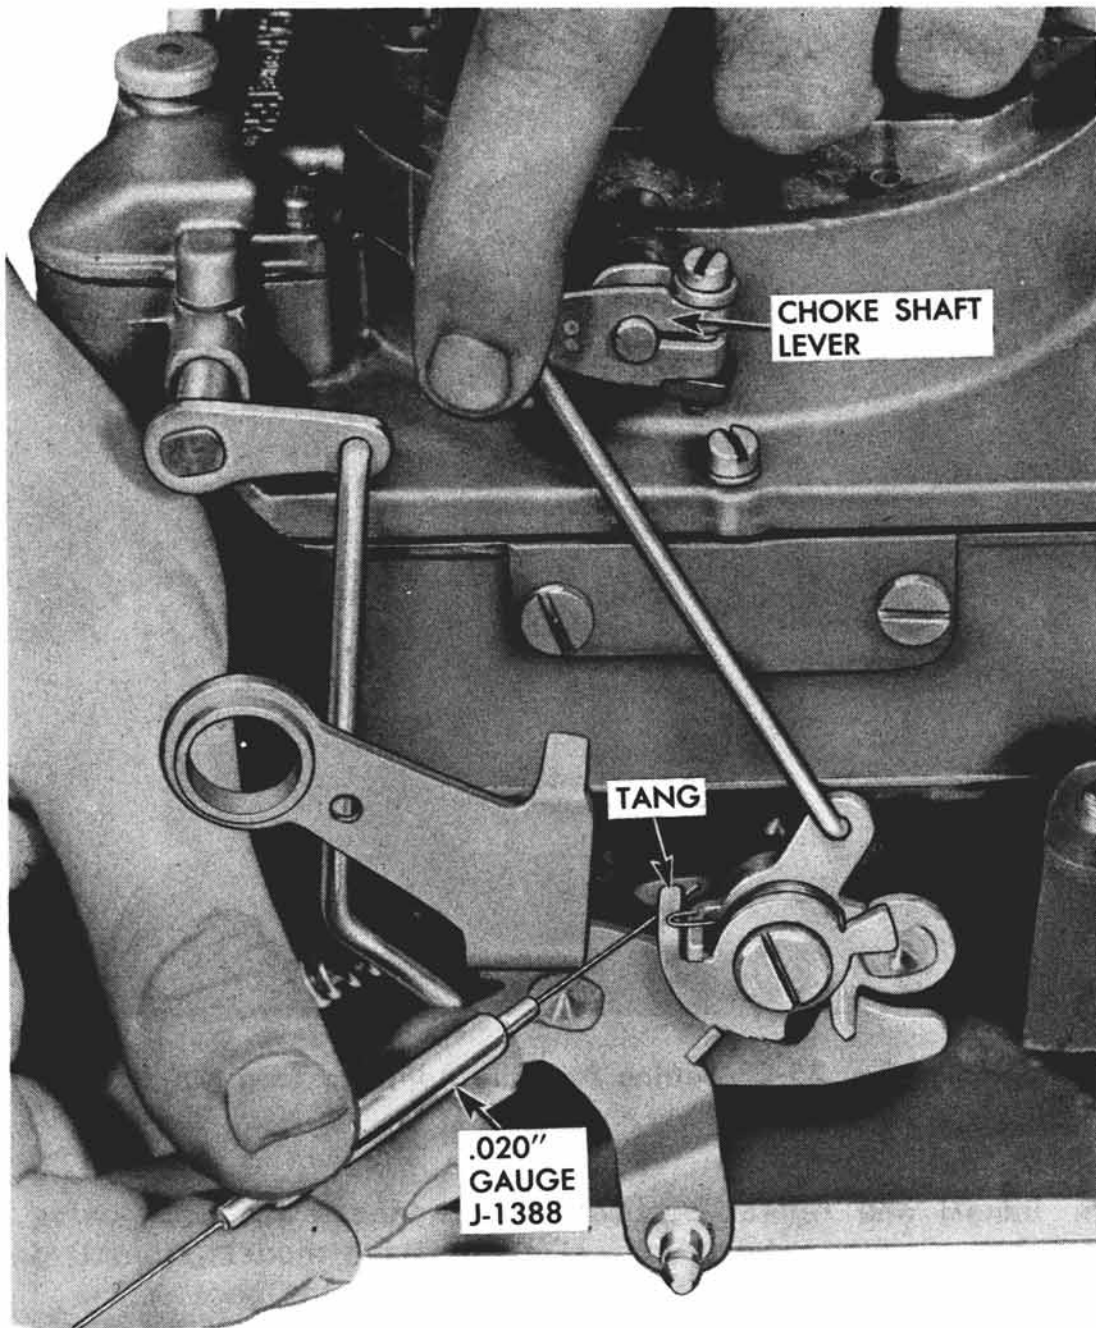

Fig. 34-C Correcting Choke Linkage For Fast Idle Adjustment
1. Loosen choke lever clamp screw on choke shaft (Fig. 34-C)